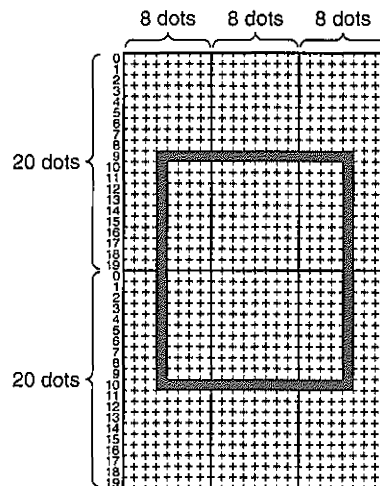

Figure 5.4
- (3) When intervals are not necessary between characters in the graphics, etc., create the characters with 8x20 dots. (Refer to Figure 5.4.)